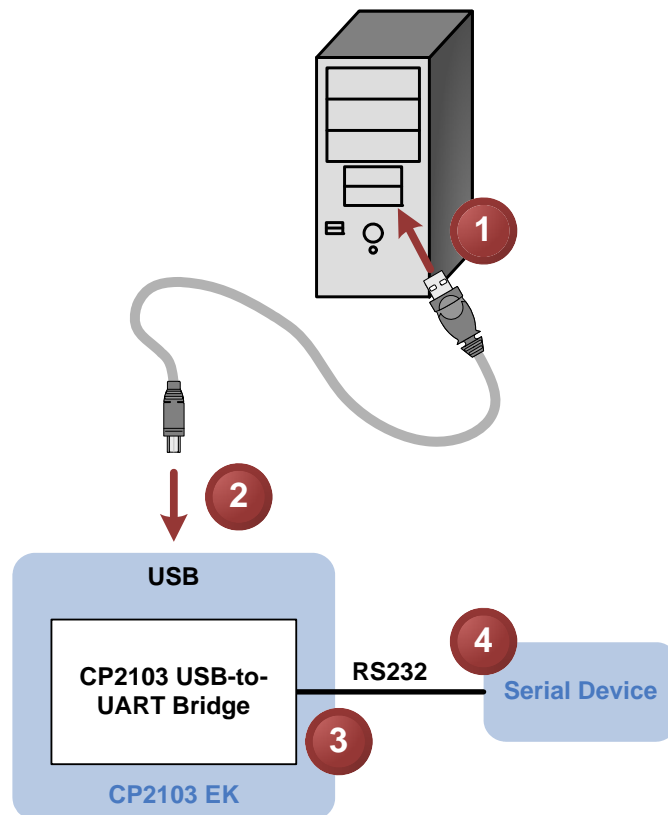
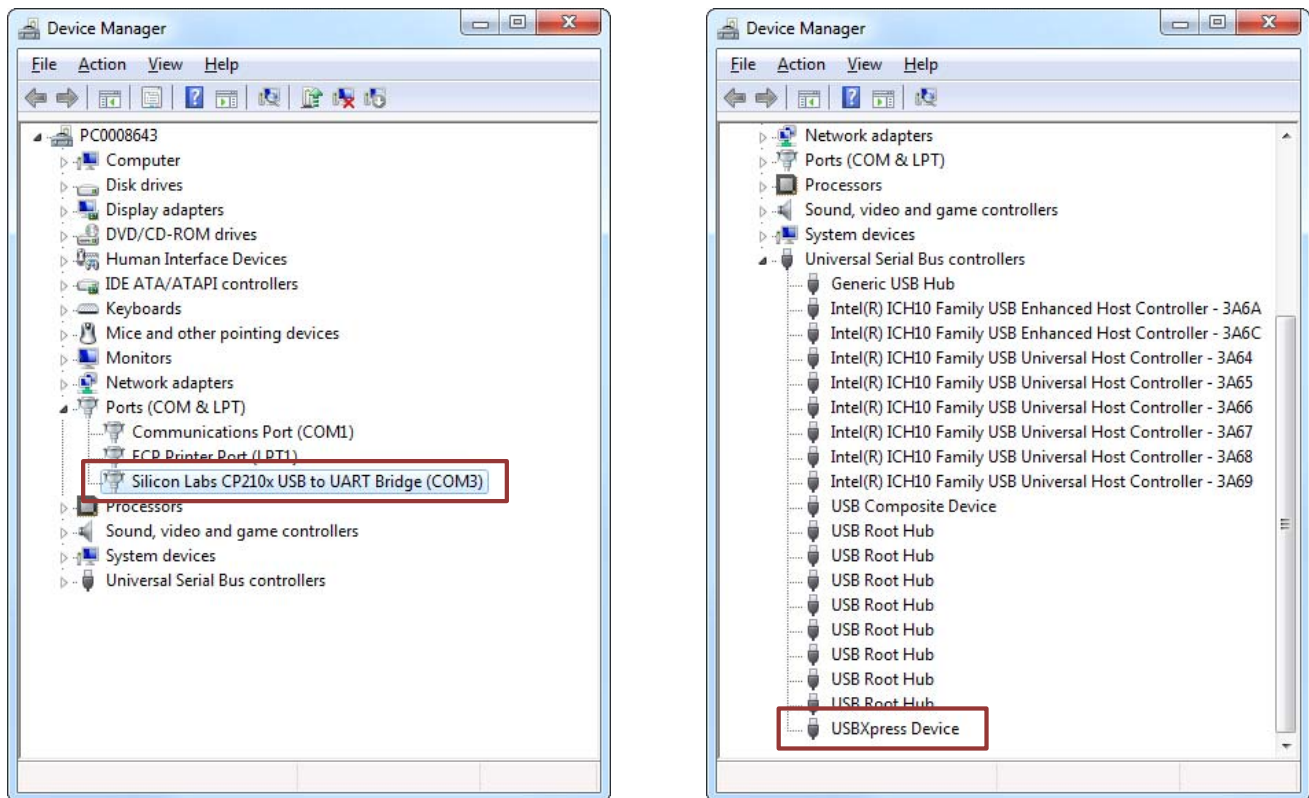

Figure 1. Hardware Setup
Figure 2. CP2103 in Device Manager
The evaluation board is connected to a PC as shown in Figure 1.
If the Virtual COM Port drivers are used, the CP2103 will appear as a COM port in the Device Manager, as shown in Figure 2. The CP2103 will always use the lowest available COM port for operation. For instance, if COM ports 1 and 2 are in use by other peripherals and applications, the CP2103 will use COM 3.
If the USBXpress drivers are used, the CP2103 will appear as a USB USBXpress device as shown in Figure 2. Examples for how to communicate with the device using the USBXpress interface are included in AN169 on the www.silabs.com/interface-appnotes page.
- Updated Figure 1 and Figure 2.